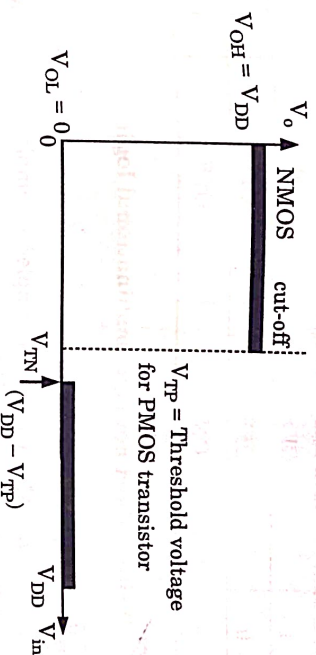

Fig. 1.13.4.
- As shown in Fig. 1.13.4, the more positive output voltage corresponds to a logic 1 is $V_{OH} = V_{DD}$ and the more negative output voltage corresponds to a logic 0 is $V_{OL} = 0$.